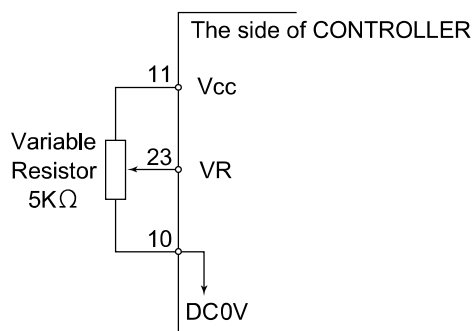
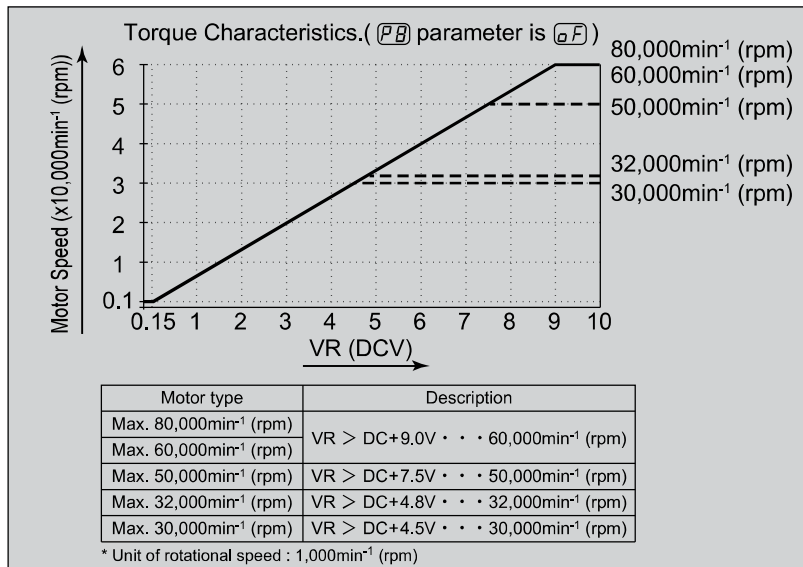

Fig. 29
Fig. 31
Refer to Fig. 29, 30 for connections. Refer to Fig. 31 about relationship between Motor Speed and " Motor Speed Control Voltage (VR) ".